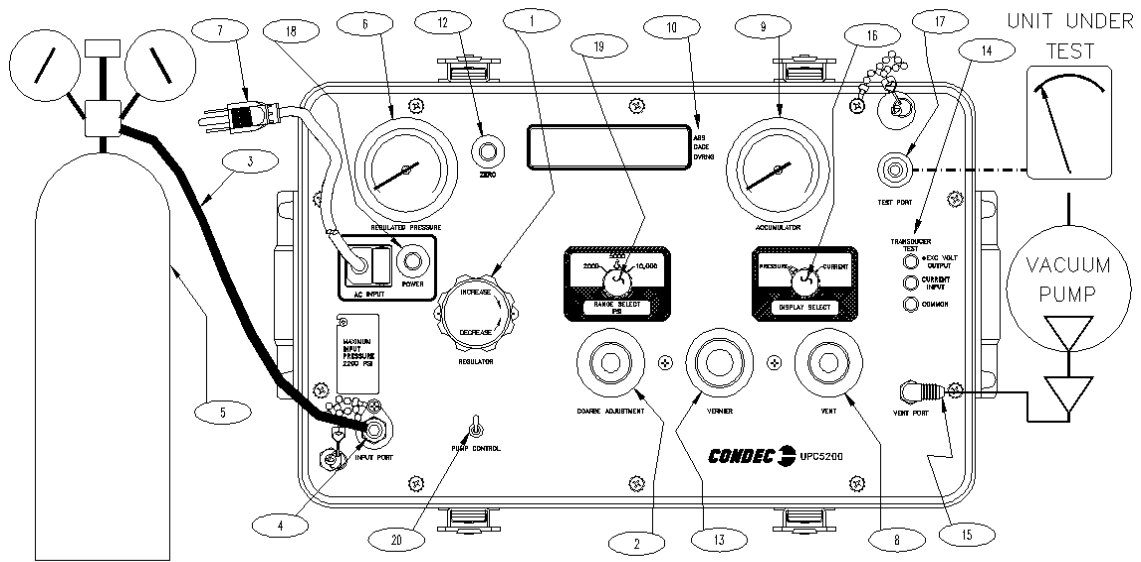

Figure 2-3. Pressure Measurement Sequence (Absolute Only)
*NOTE: See Figure 2-3 on page 8, when following these steps.*
1. Note that the indicator on the right end of the display indicates ABSOLUTE mode (10).
*NOTE: Use the intensifier PUMP CONTROL switch if the ACCUMULATOR gauge (9) reading falls below required target pressure value.*
- 2.6. To obtain exact pressure readings, slowly rotate the VERNIER control (13) knob in the direction required (clockwise to increase pressure) as indicated by the electronic numerical display.
3. If pressure measurements below atmospheric pressure are required, connect a vacuum pump to the VENT/VACUUM port (15) as shown in Figure 2-3 on page 8.